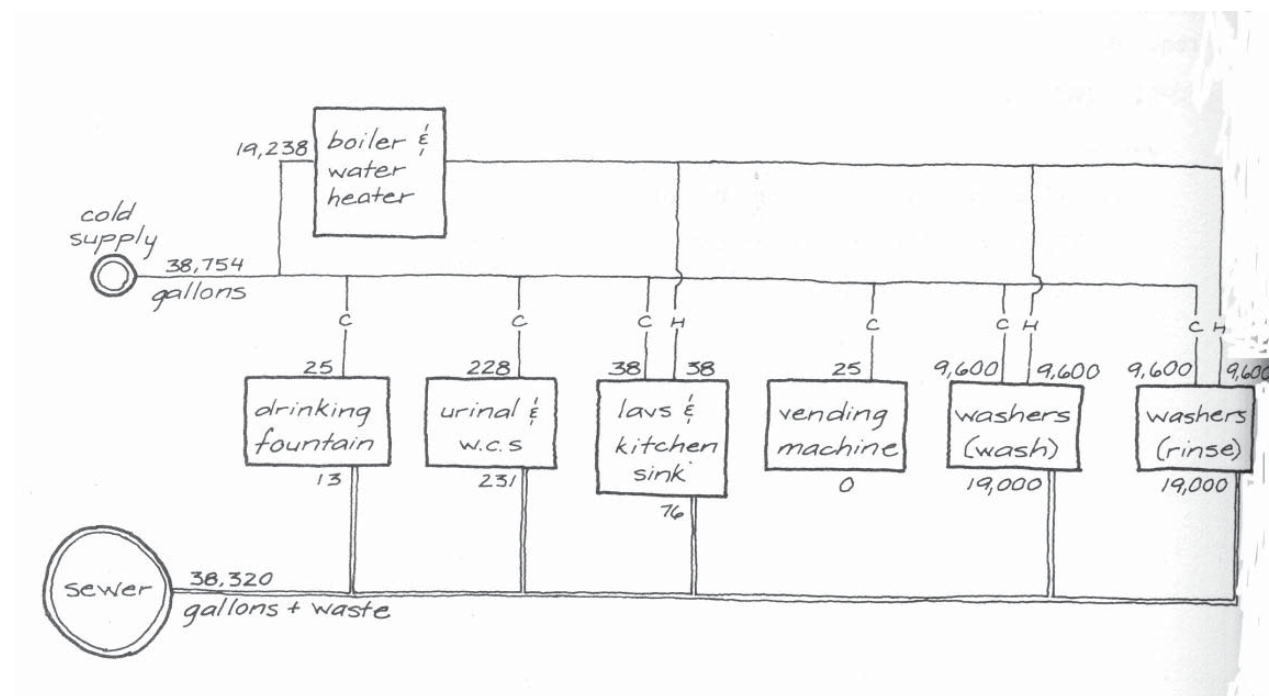

Figure D4.2.1 Conventional Water System Design Diagram
- Draw a schematic diagram of how your system would operate as a conventional system based on Figure D4.2.1. You know input gallons per day, estimate output gallons per day (the two aren't necessarily equal).